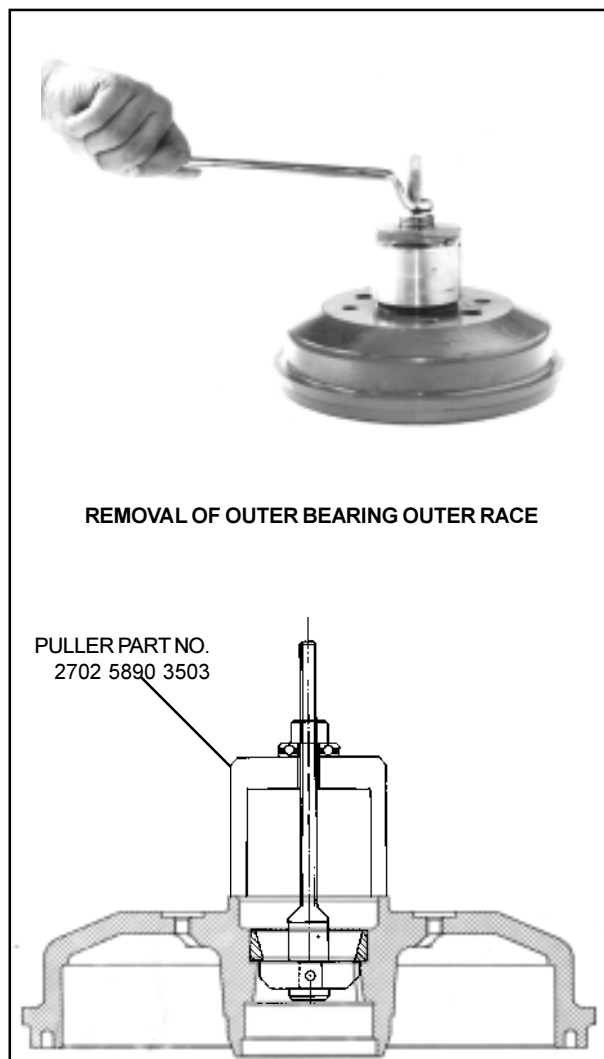

Fig. 35
5. Remove outer race of outer taper roller bearing using puller part No. 2702 5890 3503. Fig. 35